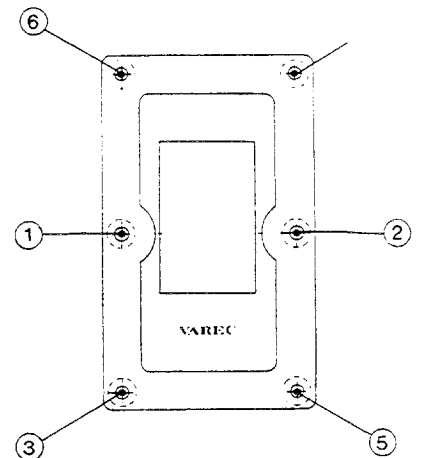

Figure 2-5 Torque Specifications For Servo Gauge Cover Screws
3. Replace the junction box cover and screws. Tighten screws in sequence and to torque values as specified. Refer to Figure 2-5, Torque Specifications For Servo Gauge Cover Screws.